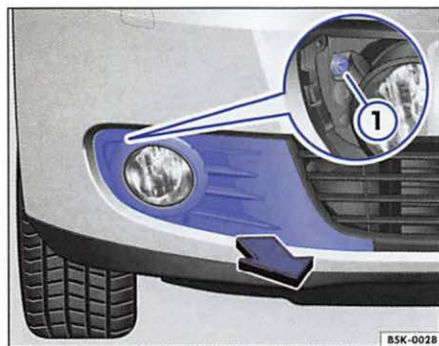
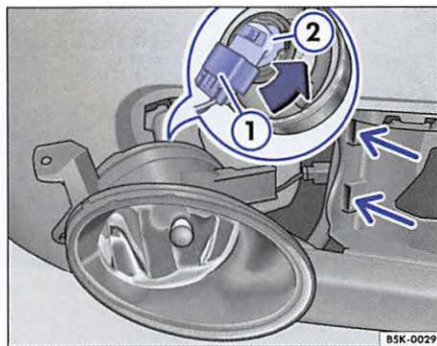

Fig. 193 In front right bumper: Dismantling headlight assembly.
Fig. 194 Replacing light bulb in headlight.
2. Pull the cover forward in the direction of the arrow $\Rightarrow$ fig. 193.
3. Unscrew the fastening screw ① with the screwdriver from the vehicle tool kit $\Rightarrow$ page 326.
4. Fold the headlight assembly slightly forward and pull out of the mounts $\Rightarrow$ fig. 194 (small arrows).
5. Release the connector ① and pull it off.
6. Rotate the bulb holder ② as far as it goes to the left and pull it out with the light bulb to the rear.
9. Attach the connector ① to the bulb holder ②. The connector must latch audibly.
10. Slip the headlight into the mounts $\Rightarrow$ fig. 194 (small arrows) and fold rearward.
11. Screw the fastening screw $\Rightarrow$ fig. 193 ① tightly with the screwdriver.
12. Insert the cover into the bumper $\Rightarrow$ fig. 193.